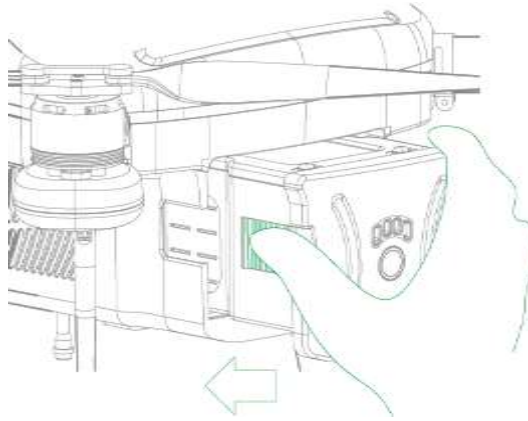

Figure 0-15
Step 1 Pick up the battery and push it into the battery compartment horizontally, as shown in Figure 0-15.